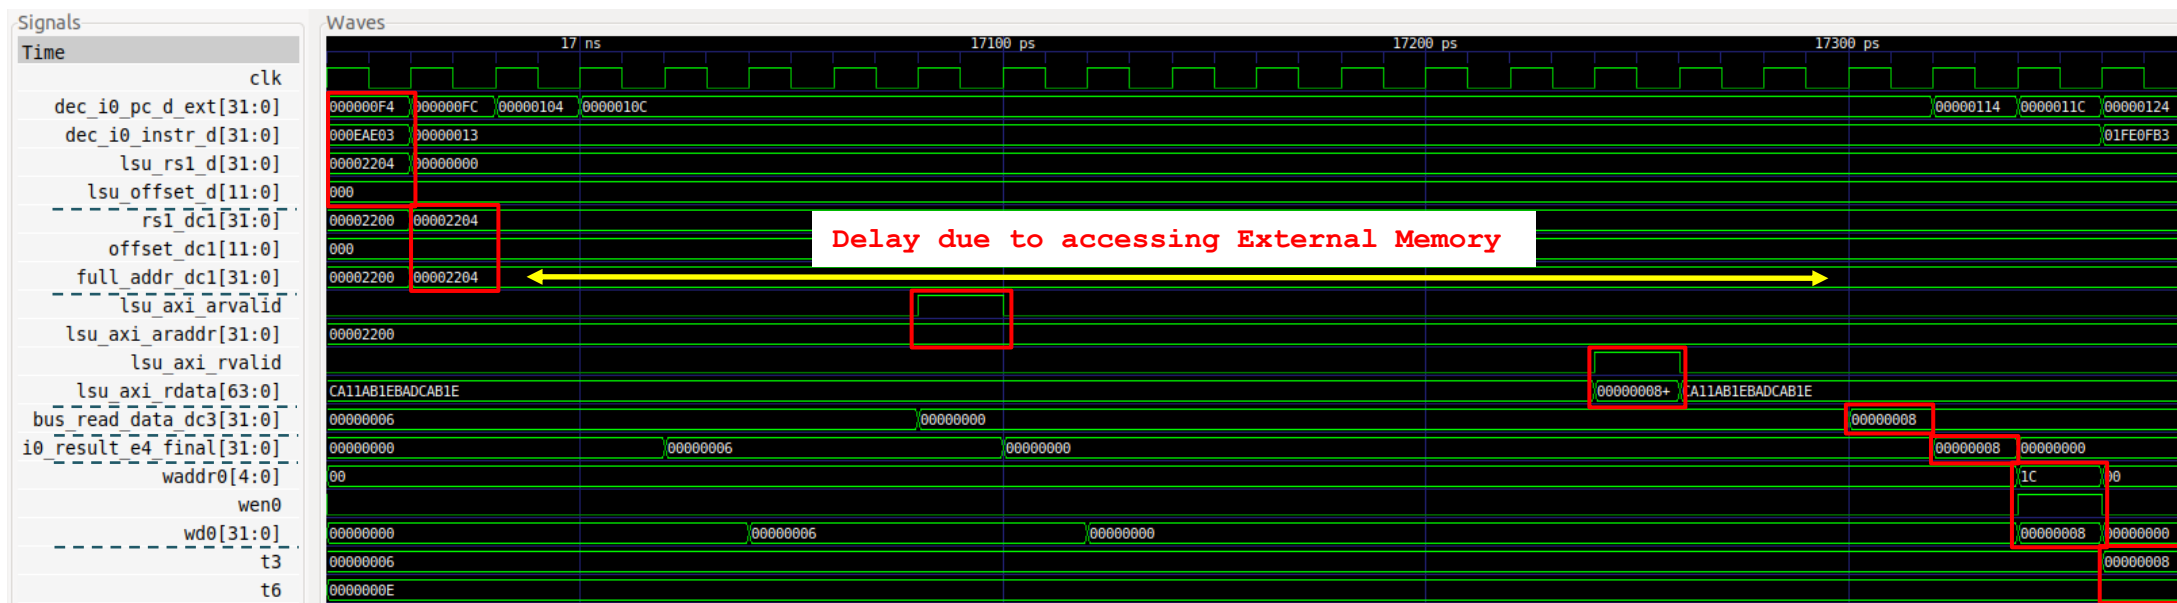

Figure 17. Verilog simulation of the example from Figure 15
Figure 17 shows the execution of the `lw` in the fourth iteration of the loop of Figure 15, where it reads the value stored in address `0x00002204` into register `t3`. Note that for this program the D array starts at address `0x000021F8`.
TASK: Replicate the simulation from Figure 17 on your own computer. Use file `test_Blocking.tcl` (provided at
- The address is computed in the Decode stage, as explained in Section 2. Signal `full_addr_dc1[31:0]` contains the *address*, which in the fourth iteration of our example (the one shown in Figure 17) is 0x00002204. Signal `end_addr_dc1[31:0]` (not shown in the figure) is also computed as explained in Section 2 and contains the address of the last byte to be accessed.